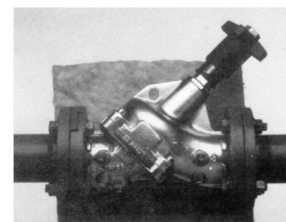

Fig. 2
1. Wrap fiberglass insulation around valve keeping insulation tight around valve neck and body as shown in figs. 2 & 3.